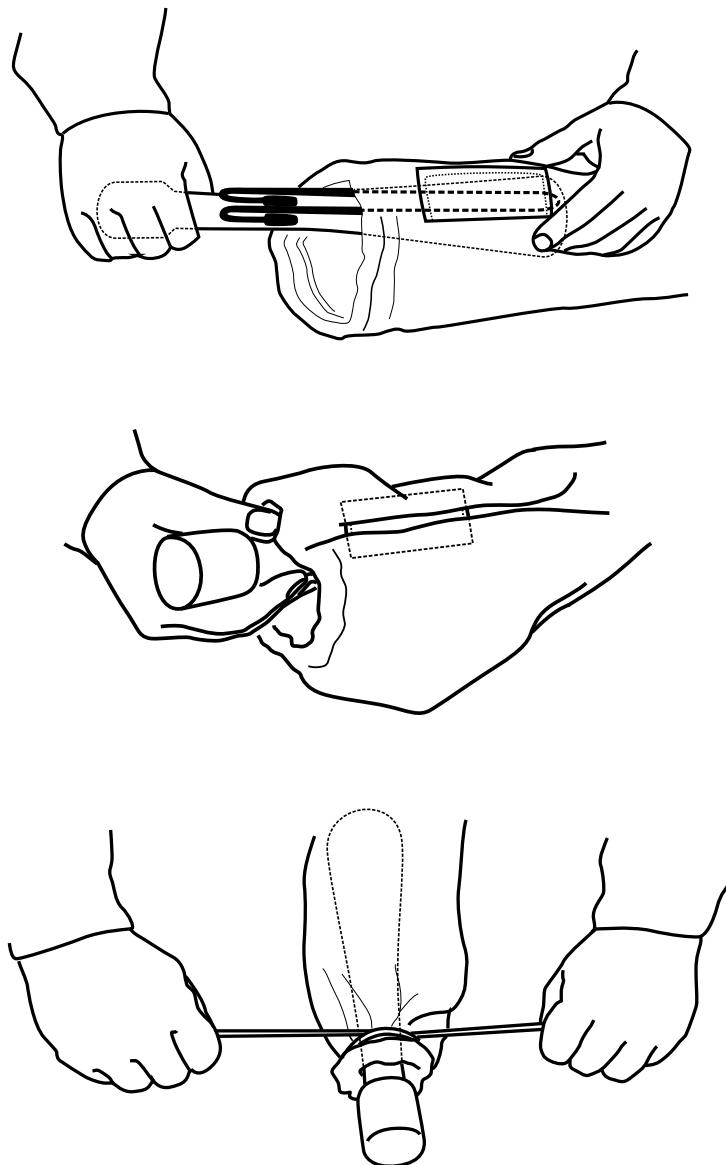

Fig. 4.1.1 Dust bag
5.1 Dust bag. Empty the dust bag regularly. The dust bag is held in place by an elastic strap and by a wire-reinforced split seam on the top of the bag. The seam tucks into a metal clip on the exhaust tube. To remove the dust bag, unsnap the elastic strap, grab the end of the bag and pull it toward the main body until the place where the split seam joins together clears the end of the metal clip. The bag can be removed and shaken out. To reattach the bag (see fig. 4.1.1), shove the exhaust tube into the bag until the end of the metal clip is beyond the place where the seam joins. Tuck both of the reinforcing wires into the clip and pull the bag away from the main body, shoving the reinforcing wires into the clip as you pull. Don't forget to resnap the elastic.